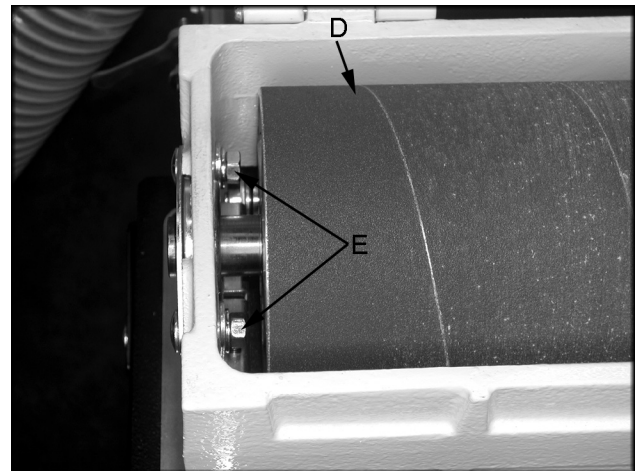

Fig. 17
1. Remove the abrasive strip (Fig. 17, Item D) from the drum.
2. Loosen all four bearing hex nuts (Fig. 17, Item E).